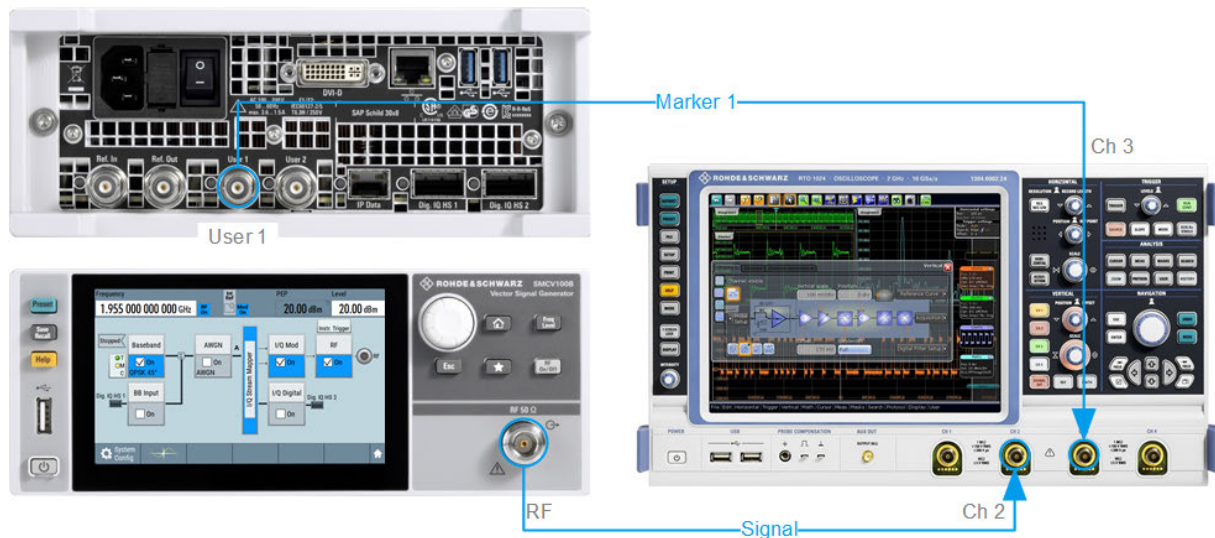

Figure 6-7: Simplified representation of a test setup for signal monitoring**
3. Use a suitable cable to connect the User 1 connector of the R&S SMCV100B to the monitoring instrument, for example an oscilloscope like R&S®RTO. See Figure 6-7.